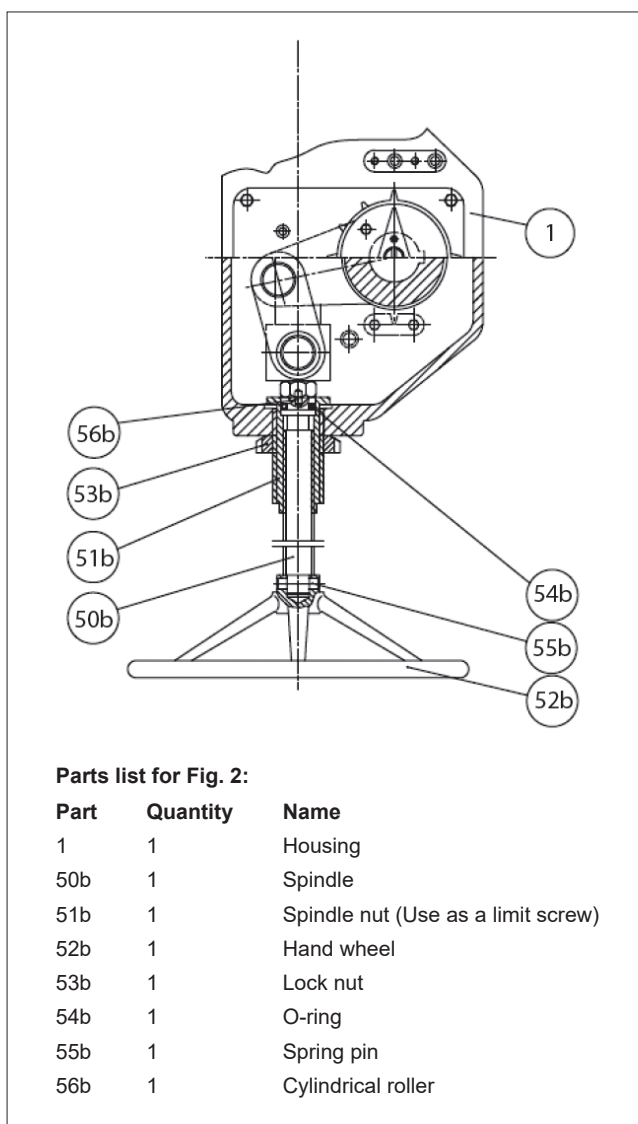

Fig. 2 B1C_LU_ actuator
The B1C actuator can be changed into a B1C_L by replacing the housing (1) accordingly and adding parts (50b to 56b), see Fig. 2.